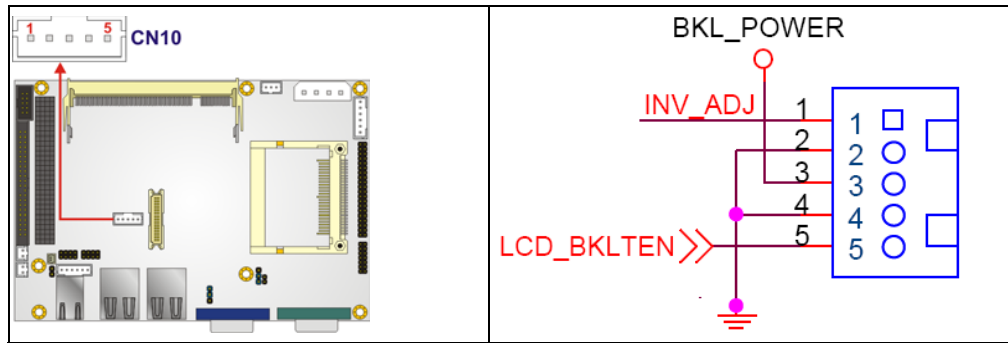

Figure 4-7: Inverter Connector Location
- CN Location:** See **Figure 4-7**